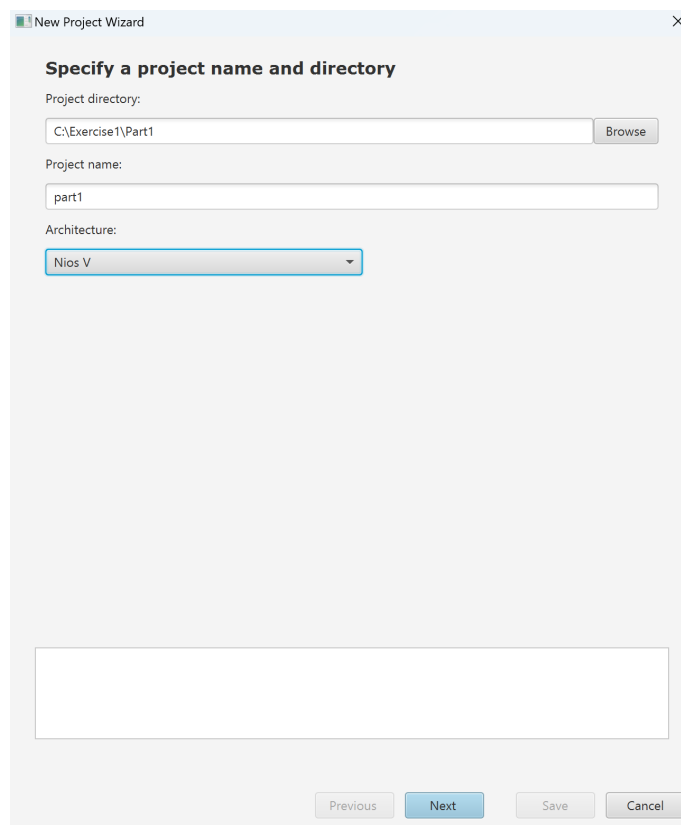
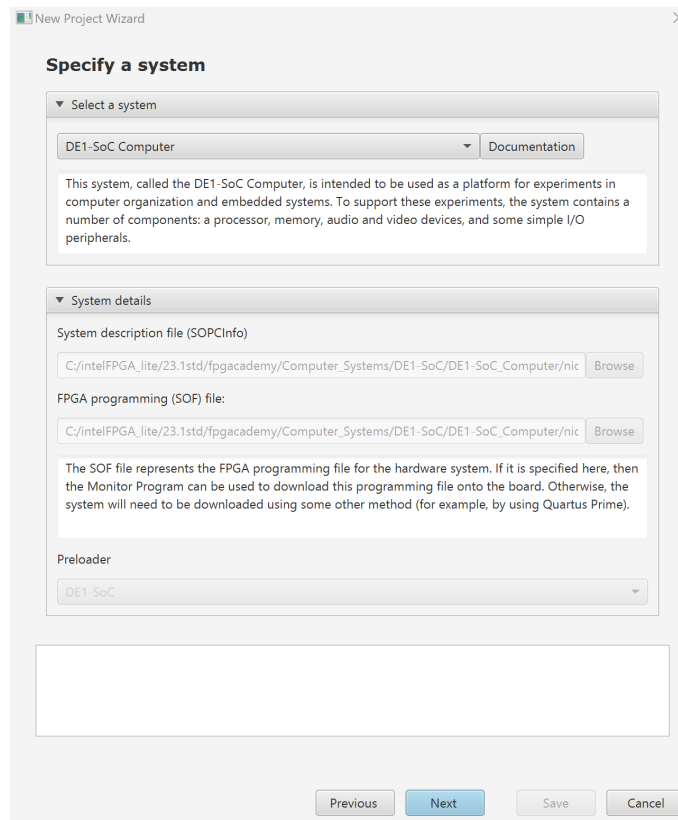

Figure 14: Specify the folder and the name of the project.
Figure 15: Specification of the system.
To develop Nios V software code using the Monitor Program it is necessary to create a new project. Select **File > New Project** to reach the window in Figure 14. Give the project a name and indicate the folder for the project; we have chosen the project name *part1* in the folder *Exercise1\Part1*, as indicated in the figure. Use the drop-down menu shown in Figure 14 to set the target architecture to Nios V. Click **Next**, to get the window in Figure 15.
3. Now, you can select your own custom computer system (if you have one) or a pre-designed (by Altera) system. As shown in Figure 15 select the *DE1-SoC Computer*. Once you have selected the computer system the display in the window will now show where files that implement the chosen system are located. Click **Next**.